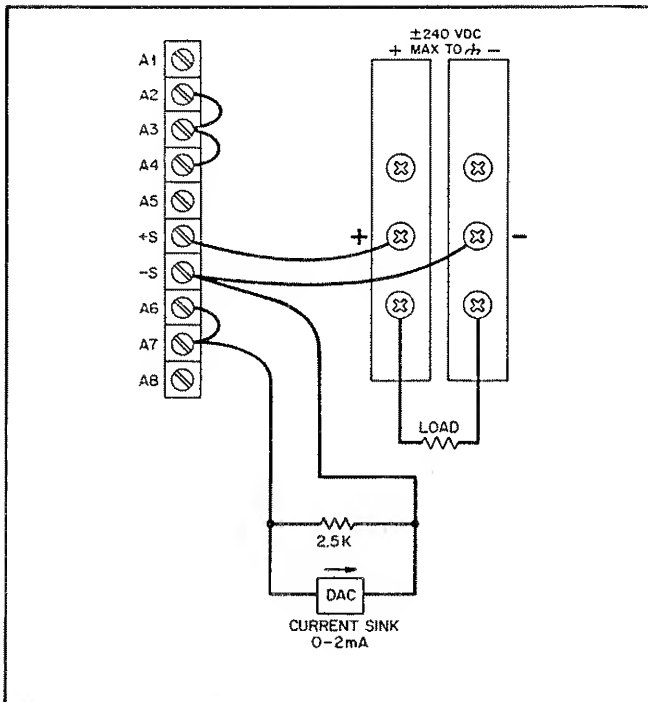

Figure 3-9. Current Programming of Output Voltage
**3-56 Current Programming of Output Voltage.** The rear-panel connections shown in Figure 3-9 allow the output voltage to be varied by using an external current sink to program the supply. In this configuration the supply's own constant current source is used to develop a voltage across the resistor. A current sink, such as a DAC, connected in parallel with the resistor sinks part or all of the current, and thereby determines the voltage developed across the resistor. (See note following Paragraph 3-47.) A current sink variable from 2 mA to 0 mA produces an inversely proportional output voltage from zero to full scale. Many DACs include a sign-change bit, so that a zero digital input to the DAC will produce a 0 volt output from the power supply, and a maximum digital input to the DAC will produce a full scale output from the power supply. Note that the VOLTAGE control potentiometer can be used in place of the external resistor by connecting A8 and A7 in place of the 2.5k resistor connected between A7 and -S.